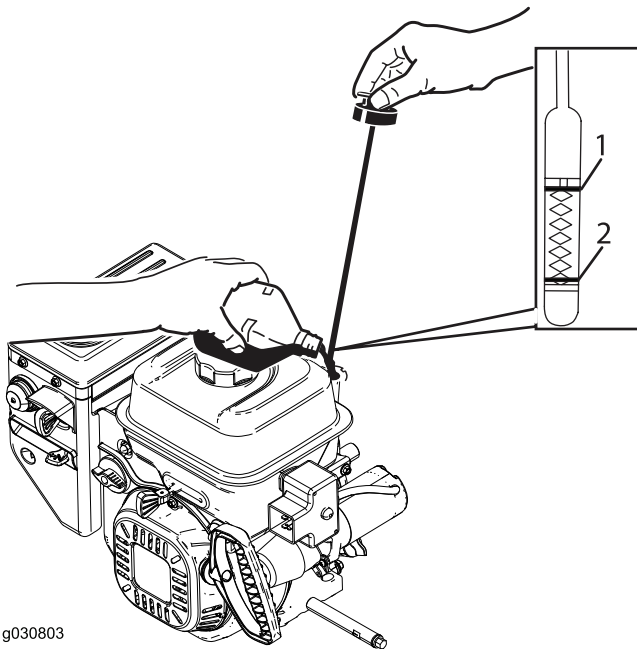

Figure 33
2. Remove the dipstick and check the oil level (Figure 33). If the oil level is below the Add mark on the dipstick, add oil. Refer to 5 Checking the Engine Oil Level (page 9).